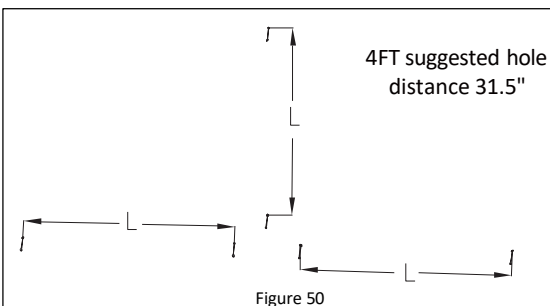

Figure 50
3. Make the mounting marks on the ceiling for fixtures, please refer to **Mounting Instructions** for suspend the fixture. See **Figure 50**.